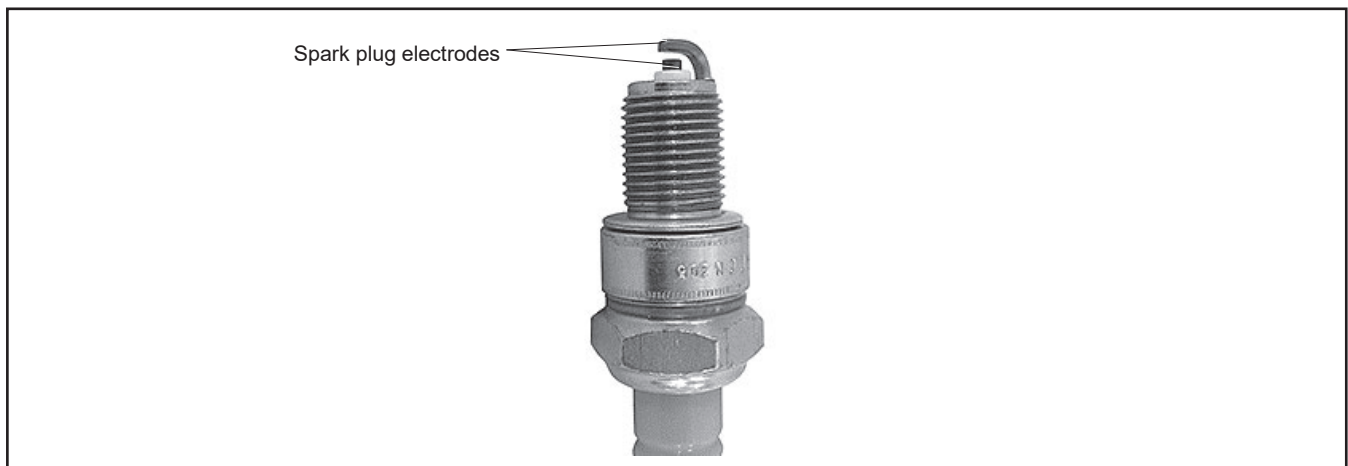

Figure 27 Spark Plug Electrodes
6. Inspect the electrodes on each spark plug. See Figure 27. The electrodes should be light brown. If the electrode appears to be burned, covered with soot, or fouled with oil, replace the spark plug.